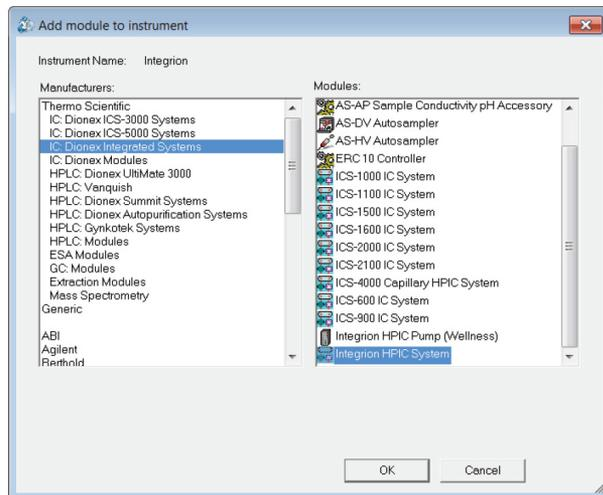

Figure 2. Creating a configuration.
1. Select *Add a Module, IC: Dionex Integrated Modules*, and *Integrion HPIC System* (Figure 2).